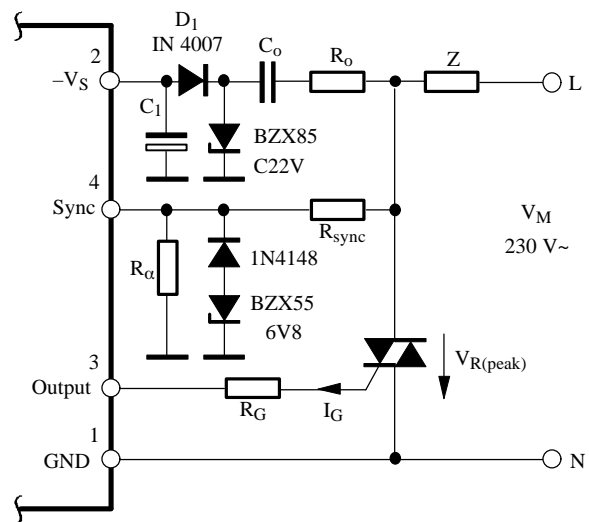

Figure 7.  $\alpha_{min}$  operation (two wire operation)
**$\alpha_{min}$ -Operation (Figure 7)**